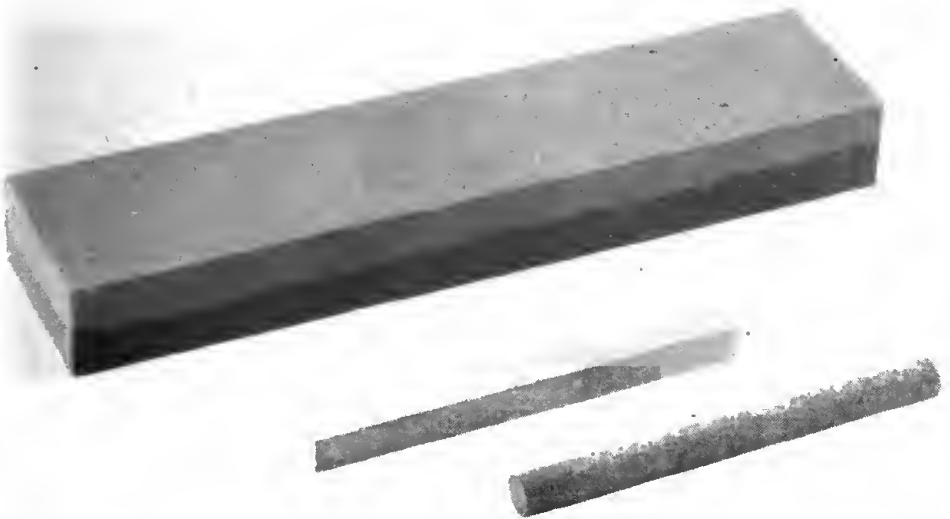

Figure 109. Sharpening stones.
k. **SHARPENING STONE.** (1) Sharpening stones are usually made of carborundum, varying in grade from coarse to very fine. They are usually rectangular in shape, but are available in almost any shape for special work. (See fig. 109.)